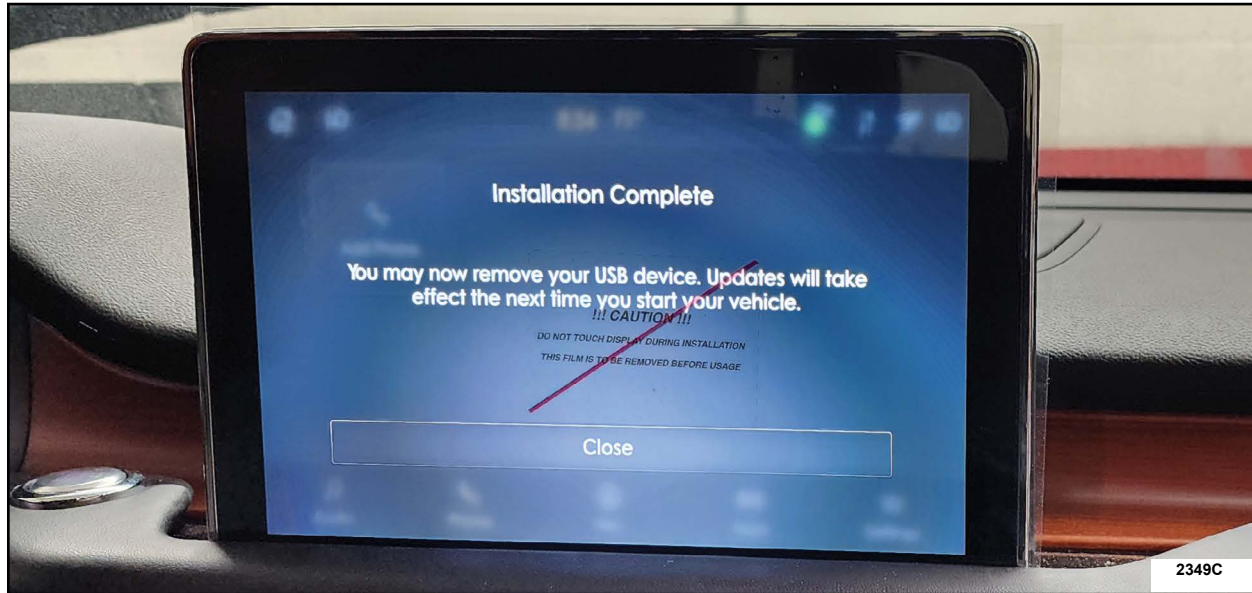

FIGURE 3
9. When the USB device has completed the upload to the vehicle, a confirmation will appear on the SYNC display. See Figure 3.